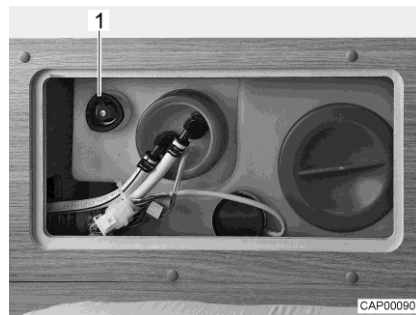

Fig. 61 Water tank with rotary handle
- Turn the rotary handle (Fig. 61,1) on the water tank in a clockwise direction as far as it will go.
- Turn the rotary handle (Fig. 61,1) on the water tank in an anticlockwise direction as far as it will go. Excess water will drain away leaving approx. 20 litres in the tank.